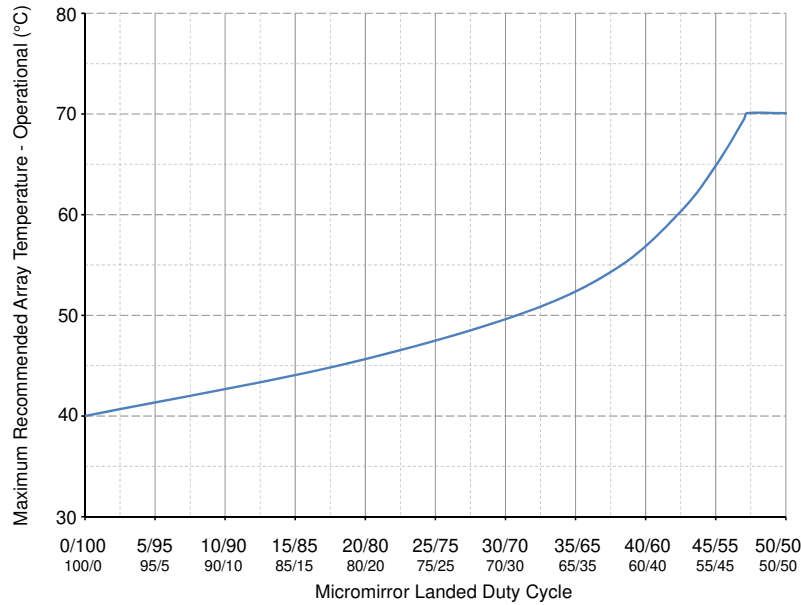
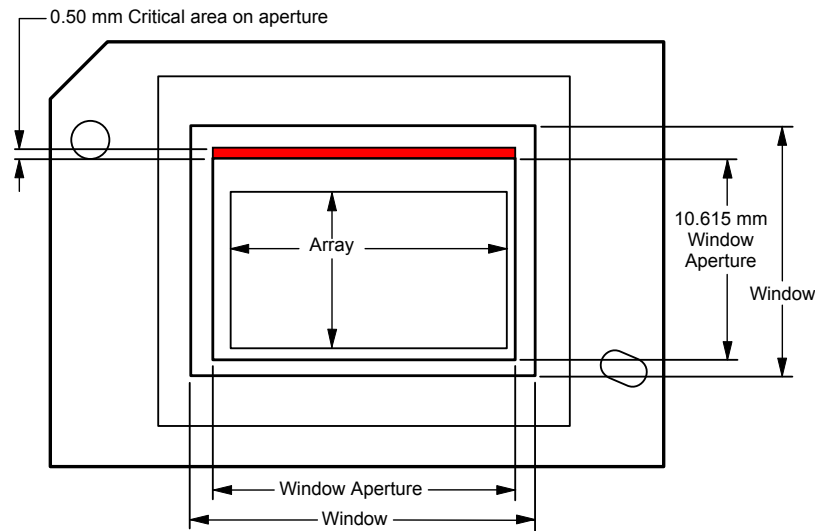

Figure 5-1. Maximum Recommended Array Temperature—Derating Curve
Figure 5-2. Illumination Overfill Diagram—Critical Area
- (12) Per Figure 5-1, the maximum operational array temperature should be derated based on the micromirror landed duty cycle that the DMD experiences in the end application. Refer to Micromirror Landed Duty Cycle for a definition of micromirror landed duty cycle.
- (13) Long-term is defined as the usable life of the device.
- (14) Short-term is the total cumulative time over the useful life of the device.
- (15) The average over time (including storage and operating) that the device is not in the elevated dew point temperature range.
- (16) Exposure to dew point temperatures in the elevated range during storage and operation should be limited to less than a total cumulative time of CT_{ELR}.
- (17) The active area of the DMD is surrounded by an aperture on the inside of the DMD window surface that masks structures of the DMD device assembly from normal view. The aperture is sized to anticipate several optical conditions. Overfill light illuminating the area outside the active array can scatter and create adverse effects on the performance of an end application using the DMD. The illumination optical system should be designed to minimize light flux incident outside the active array. Depending on the particular system's optical architecture and assembly tolerances, the amount of overfill light on the outside of the active array may cause system performance degradation.
- (18) Applies to the region in red in Figure 5-2